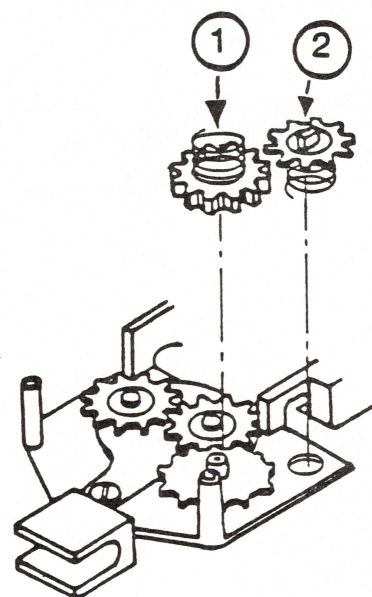

FIGURE 9
6. Replace the ratchet spring and ratchet gear (see Figure 9, #1).
7. Replace the ribbon spring and cartridge drive gear (see Figure 9, #2).